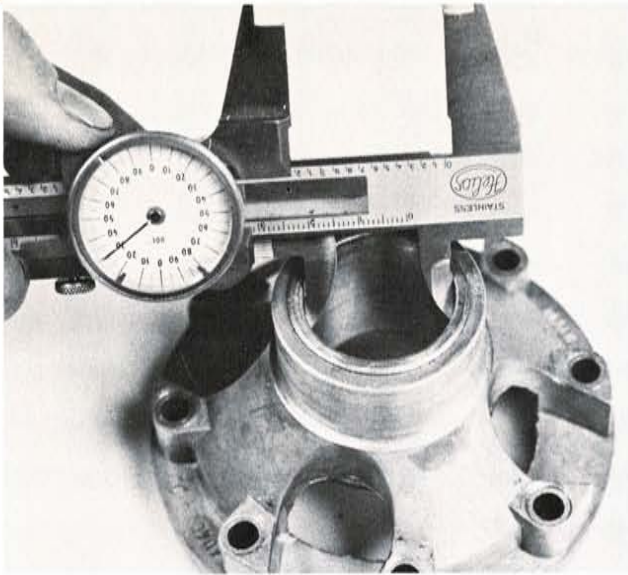

Fig 15
15. Measure the I.D. of bronze bushings in differential bodies. Should measurements exceed 1.258", press bushing out and replace. (Fig 15)